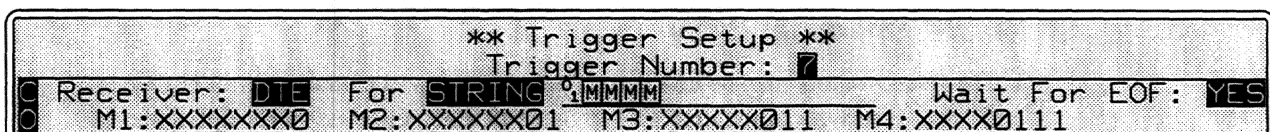

Figure 25-4 Four bit masks can be used as part of the search string.
6. *Bit masks.* Four bit masks can be positioned anywhere in the data-entry string. To enter a bit mask, use **BIT MASK** at the desired location in the string. Each time you press **BIT MASK**, a new mask field appears below the string-entry field. To move the cursor to the next position in the string-entry field, press **DONE**. The mask fields are numbered M1 through M4, to denote the order in which they appear in the string (see Figure 25-4).